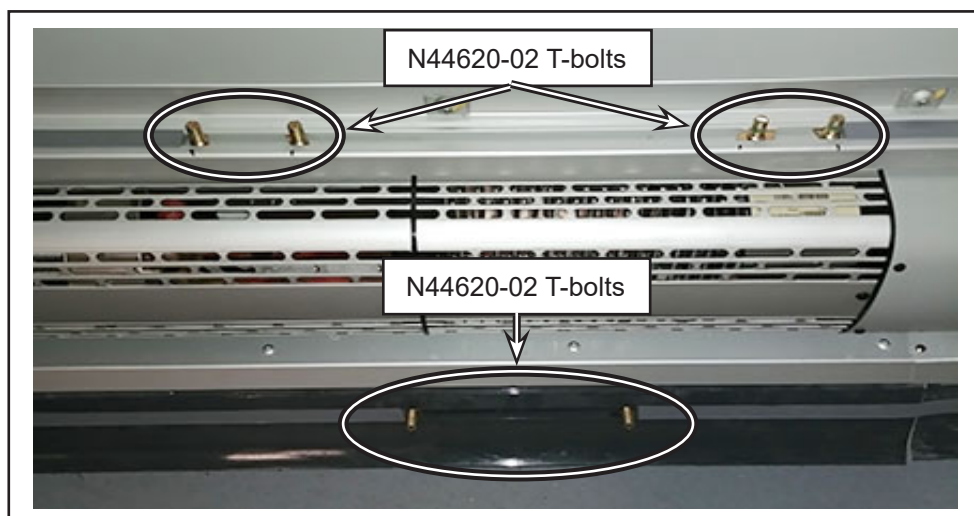

Figure 14 - T-bolts N44620-02
- s. Install N44620-02 T-bolts in the upper and lower anchor rail where seats were previously installed. See Figure 14.